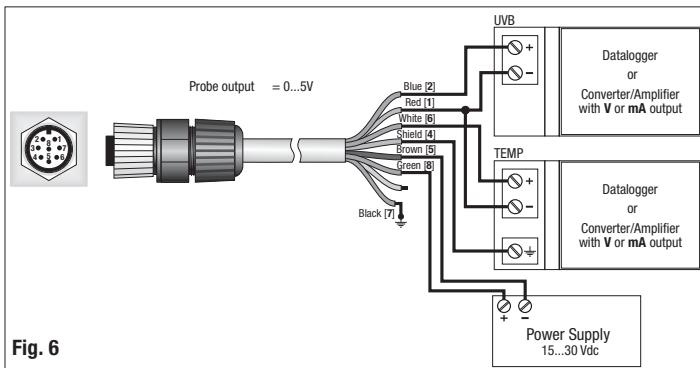

Fig. 6
N.B. The input load resistance of the data acquisition system must be greater than  $10\text{k}\Omega$ . The connection scheme is shown in figure 6.
The UV-resistant cable (supplied on request) has 5 wires plus the braid (screen); the colour code is shown in fig. 6.